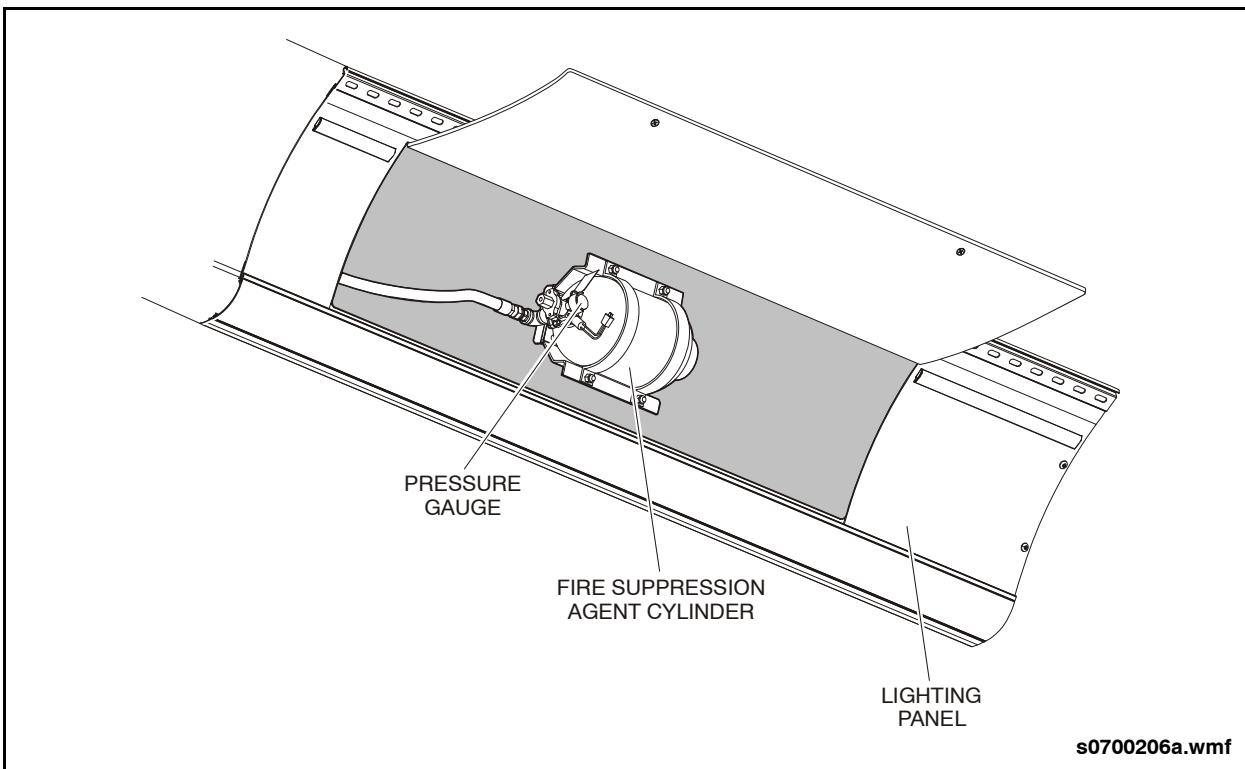

Fig. PM-1: Fire Suppression Cylinder Inspection
- Extinguisher pressure gauge pointer is in the green zone at room temperature. See "Fig. PM-1: Fire Suppression Cylinder Inspection" on page 21.